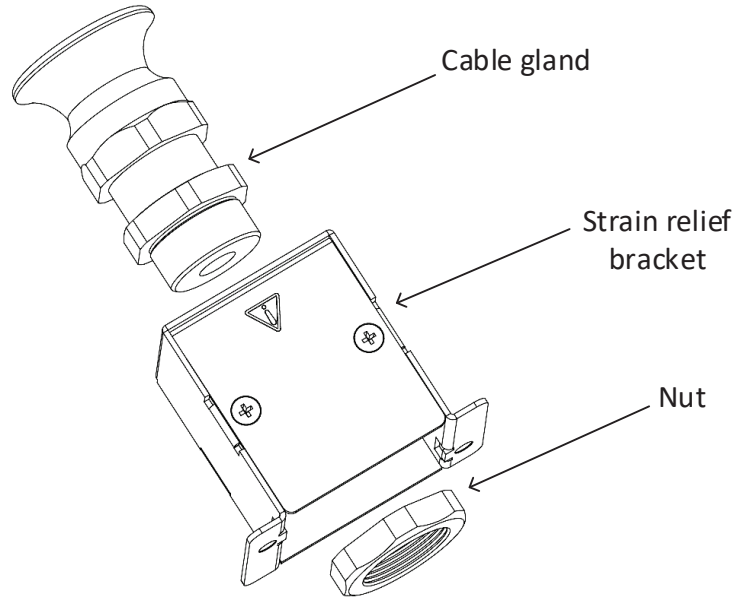

Figure 4-22: Insertion of the Plastic Nut into Strain Relief Bracket
2. Insert the Cable gland into the Strain relief bracket Assembly as shown in Figure 4-22.